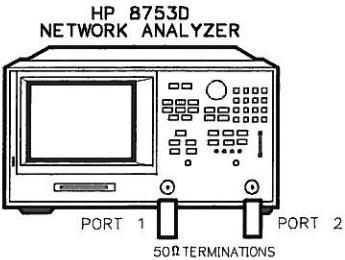

Figure 1-22. Source Input Noise Floor Test Setup
1. Connect the equipment as shown in Figure 1-22.